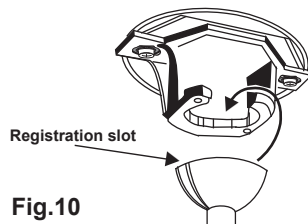

Fig.10
Step 9. Place the down rod ball into the hanger bracket socket. This will allow you to make the electrical connections. (Fig.10)